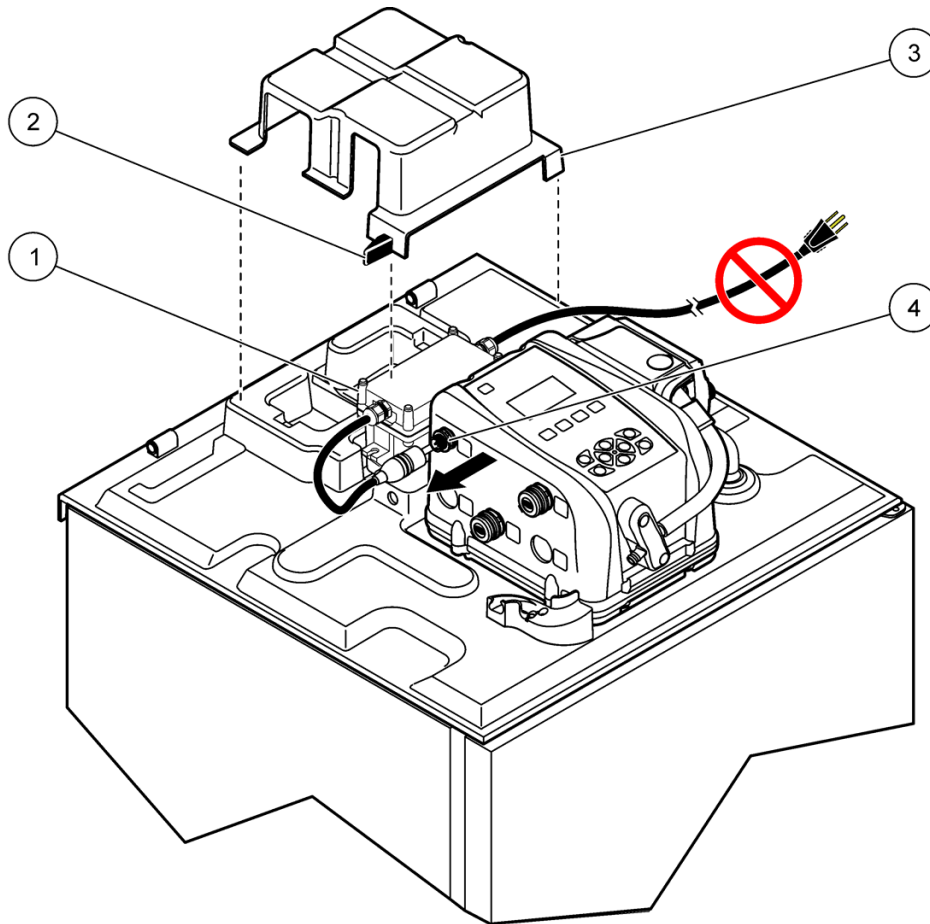

Figure 4 Controller power disconnect for SD900 Refrigerated Sampler
- 4. Remove the hold down bracket (located behind the controller) from the refrigerator assembly by disengaging the 2 latches on the sides (Figure 4 on page 5).